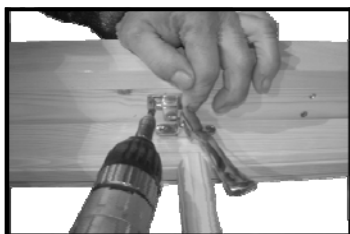

Fig A6
12. Use the pin to correctly place the lever and secure using 2x25mm screws for each part (Fig A6).